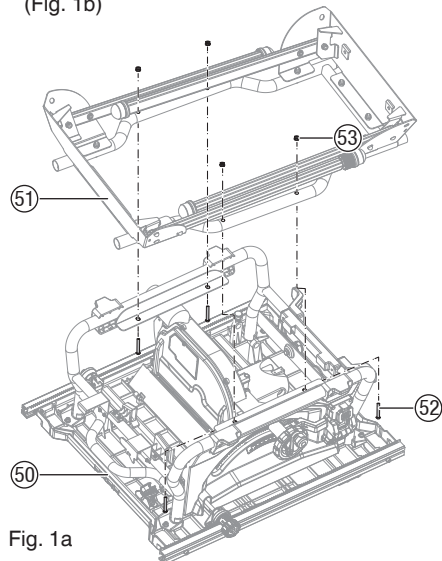

Fig. 1a
ASSEMBLE THE STAND (Fig. 1a-1e)
- Place the table saw assembly (50) upside down on the protective material.
- Attach the stand assembly (51) to the table saw assembly (50) with four flat round head screws M8 x 45 (52) and four lock nut M8 (53) (two holes on the side board of the stand assembly located on the blade wrench storage). (Fig. 1a)